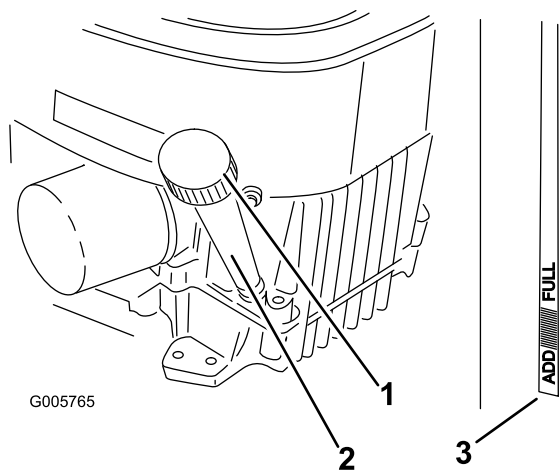

Figure 35
4. Clean around the oil dipstick (Figure 35) so that dirt cannot fall into the fill hole and damage the engine.
5. Unscrew the oil dipstick and wipe the end clean (Figure 35).
9. Change the oil filter, if necessary (Figure 35).
10. Clean around the oil dipstick and unscrew the cap (Figure 35).
11. Slowly pour approximately 80% of the specified oil into the filler tube (Figure 35).